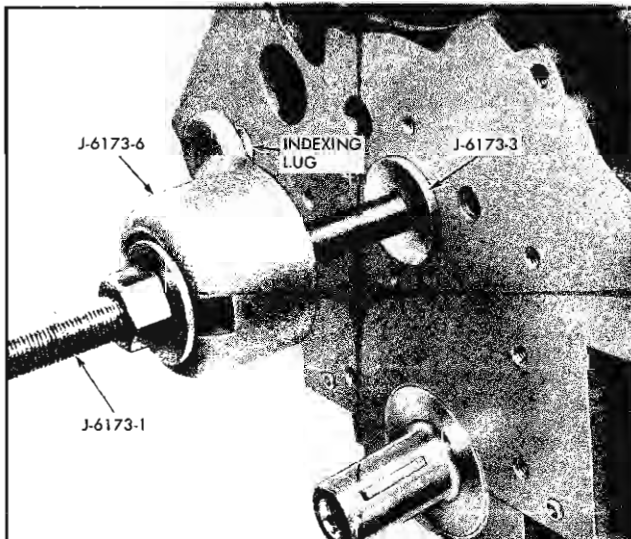

Fig. 6-44 Positioning Indexing Collar
4. Insert shaft and Indexing Collar through Remover and Replacer Adapters and position lug on Indexing Collar in ventilator hole in front of block (Fig. 6-44). This indexes the shaft so that it cannot rotate.
6. Insert Shaft with Indexing Collar, thrust washer, and nut through Remover, pilot and Replacer Adapters and index lug on Collar with ventilation hole in front of block (Fig. 6-44).